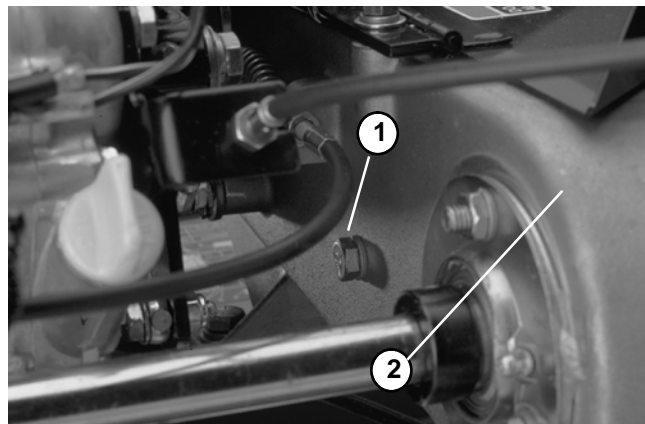

Figure 3
B. Loosen idler pulley cap screw on the engine side of the housing (Fig. 3).
D. Tighten cap screw to lock adjustment (Fig. 3).